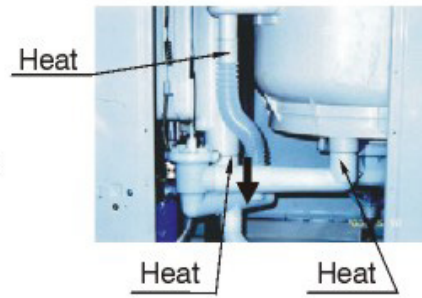

Figure 16
**To replace drain valve** (see Figure 16)